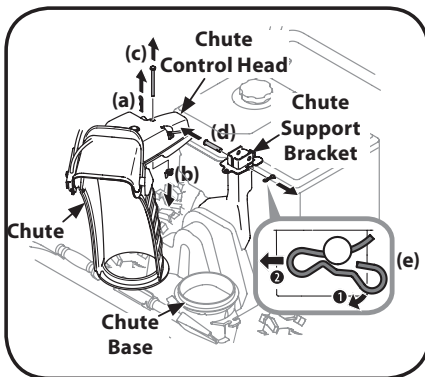

Figure 2-21
1. Remove hairpin clip (a), wing nut (b) and hex screw (c) from chute control head and clevis pin (d) and bow-tie cotter pin (e) from chute support bracket. See Figure 2-21.